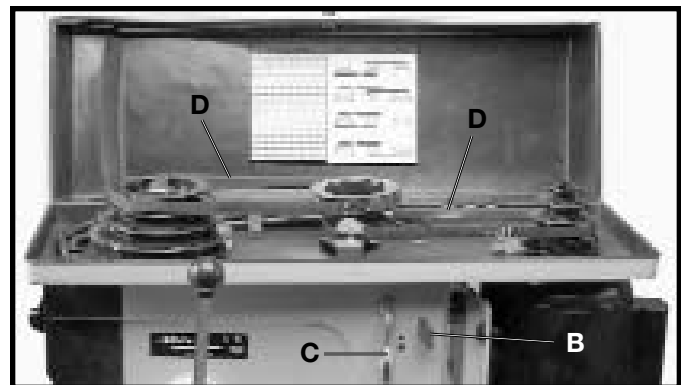

Fig. 25
5. After the belts are positioned on the desired steps of the spindle, center, and motor pulleys, move tension lever (C) Fig. 25, to the rear until the belts are properly tensioned and tighten two tension lock knobs (B), one of which is shown. **NOTE:** The belts should be just tight enough to prevent slipping. Excessive tension will reduce the life of the belt, pulleys, and bearings. Correct tension is obtained when the belts (D) can be flexed approximately one inch at the center of the pulleys using light finger pressure.